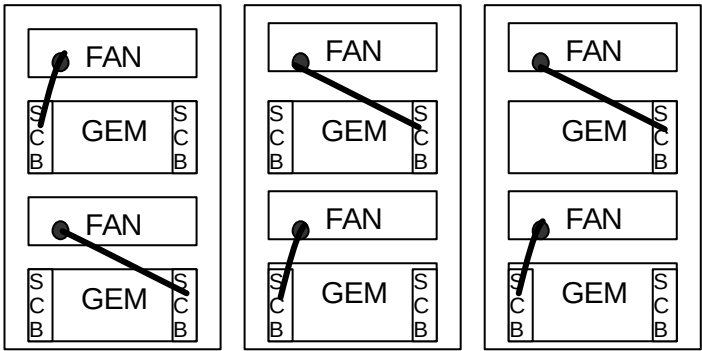

fig 2: Fan units supervised by SCB-RP board in the GEM magazine.
The fan unit is connected to the SCB-RP board with a V.24 cable and is using a proprietary protocol to communicate. See fig 2. The O&M handler realized in the Regional Processor (RP) Software can via this communication retrieve lots of status and alarm information as well as reading the Hardware Inventory information and controlling the MIA LED. For Hardware Inventory data see further in ref. 3.